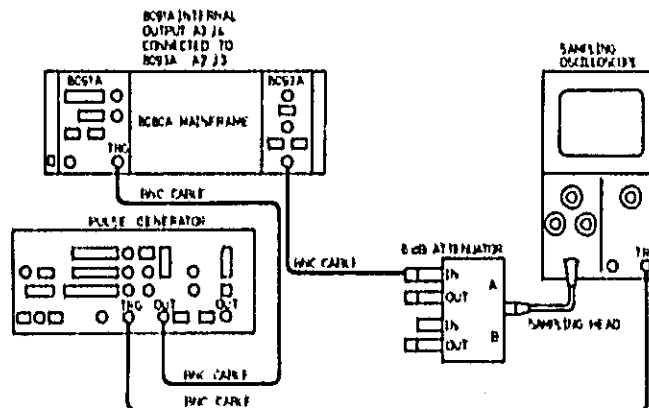

Figure 4-1.
1. Connect equipment as shown in Figure 4-1.